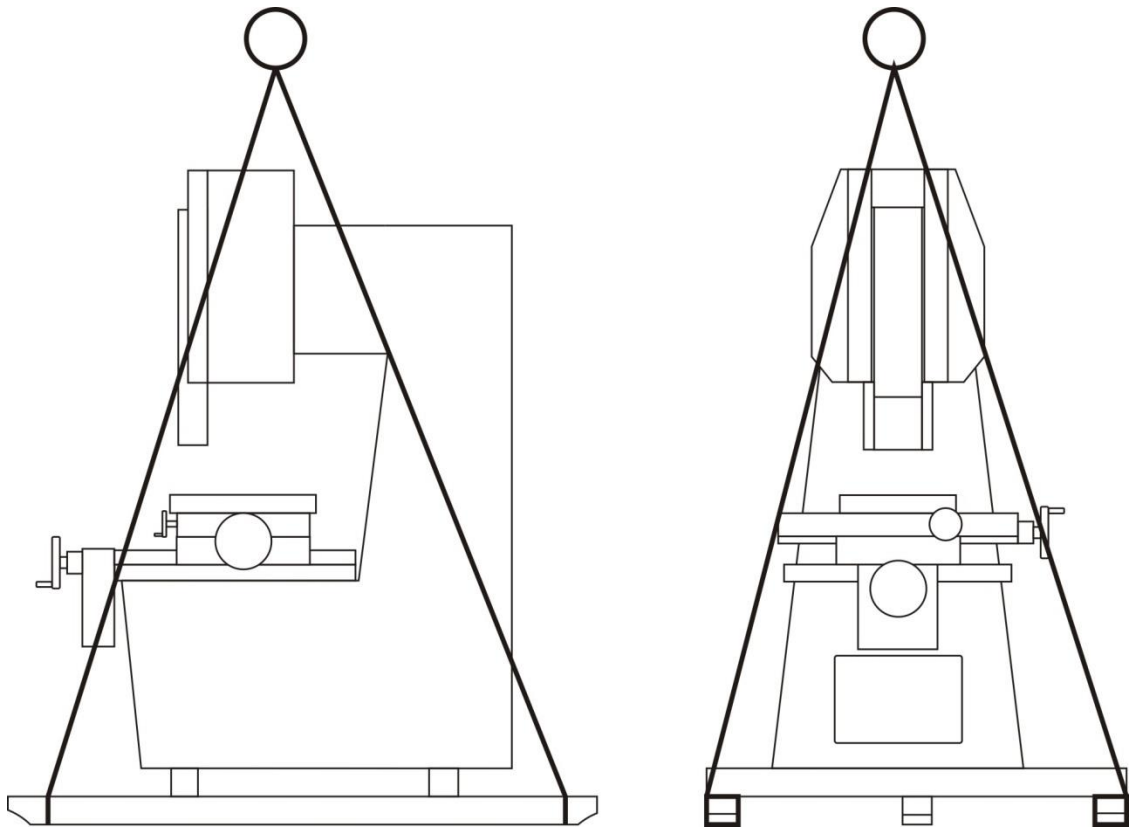

fig. 6
1. By a crane, with the ropes passing through as shown in fig. 6